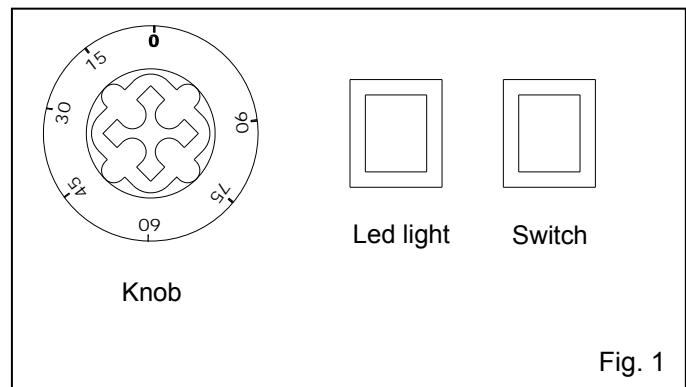

Fig. 1
3.1 Turning on (fig.1)
3.2 Shutdown (fig.1)